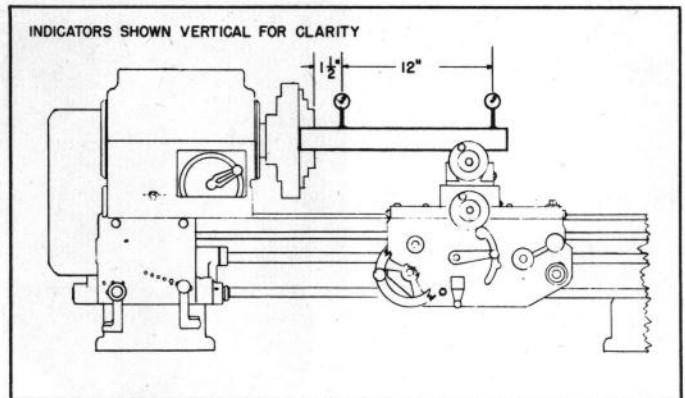

Figure 3
2. True up this test bar by indicating $1\frac{1}{2}$ " and $13\frac{1}{2}$ " from the chuck, rotating the test bar against an indicator at above spots, see Figure 3. The total indicator reading should not exceed .0005 at either spot.